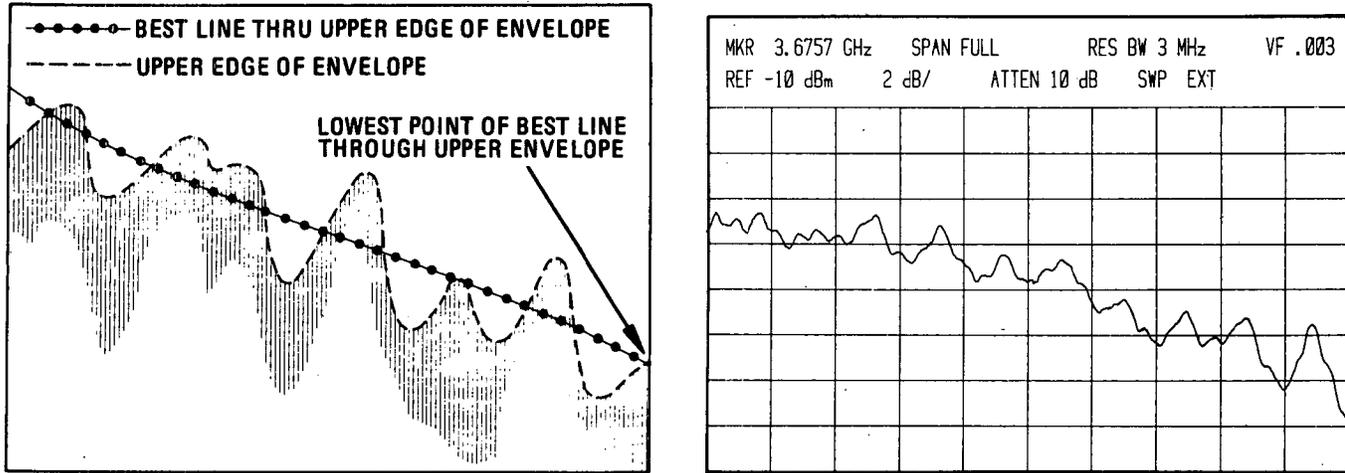

Figure 5-54. Best Line Relative to 1 kHz Modulation Envelope
**The 'best line,' as used in the following procedures, approximates the median line between the peaks and troughs of the upper edge of the 1 kHz modulation envelope. The best line is illustrated in Figure 5-54.**
8. Note best line as illustrated in Figure 5-54. Adjust REFERENCE LEVEL controls to set lowest point of that line on center horizontal graticule line. This point is used as a reference in checking for approximately same power level in frequency bands 5.8 - 12.9 GHz, 8.5 - 18 GHz, and 10.5 - 22 GHz (steps 9 through 14).
15. With equipment connected as shown in Figure 5-54, set A28S1 NORM-OFF-TEST switch to NORM. Set spectrum analyzer FREQUENCY BAND GHz to 3.8–8.5, INPUT ATTN to 10 dB, REF LEVEL dBm to  $-10$ , and REFERENCE LEVEL FINE to 0. Set synchronizer ERROR SIGNAL switch to  $-$ . Set sweep oscillator to sweep from 3.8 GHz to 8.5 GHz. Set TRACE A and TRACE B to STORE BLANK.
28. With equipment connected as shown in Figure 5-54, set spectrum analyzer FREQUENCY BAND GHz to 1.7–4.1 GHz and set SWEEP SOURCE to EXT. Set synchronizer ERROR SIGNAL switch to -. Set sweep oscillator to CW and adjust CW control to approximately 2.9 GHz. Set  $\Delta F$  X10 to 2.4 GHz. Phase lock sweep oscillator and set output power level as follows: